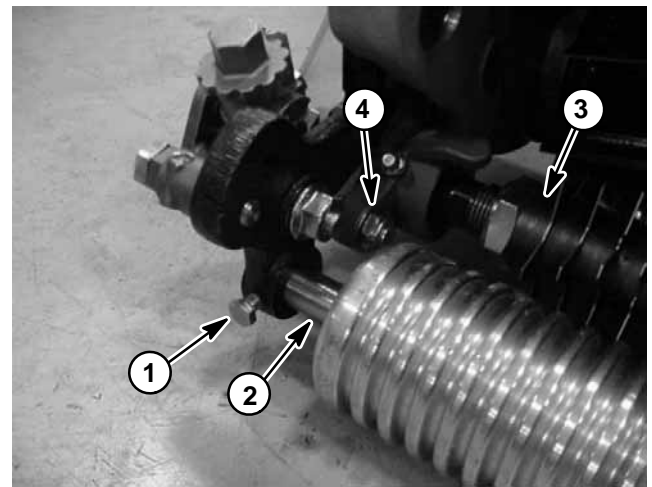

Figure 7
3. Loosen cap screws that secure front roller shaft to RH and LH groomer arms (Figs. 7 and 8).
4. Remove lock nut (item 7) and spring washer (item 6) that secure RH groomer arm lift rod to RH side plate (Fig. 7).
5. Remove lock nut (item 29), HOC washer (item 28) and plow bolt (item 27) that secure RH groomer arm assembly to RH side plate. Do not change height-of-cut screw adjustment. Remove RH groomer arm assembly.
10. Install spring washer and lock nut to secure RH groomer arm lift rod to RH groomer side plate (Fig. 7).
11. Center front roller and tighten cap screws to secure roller (Figs. 7 and 8).